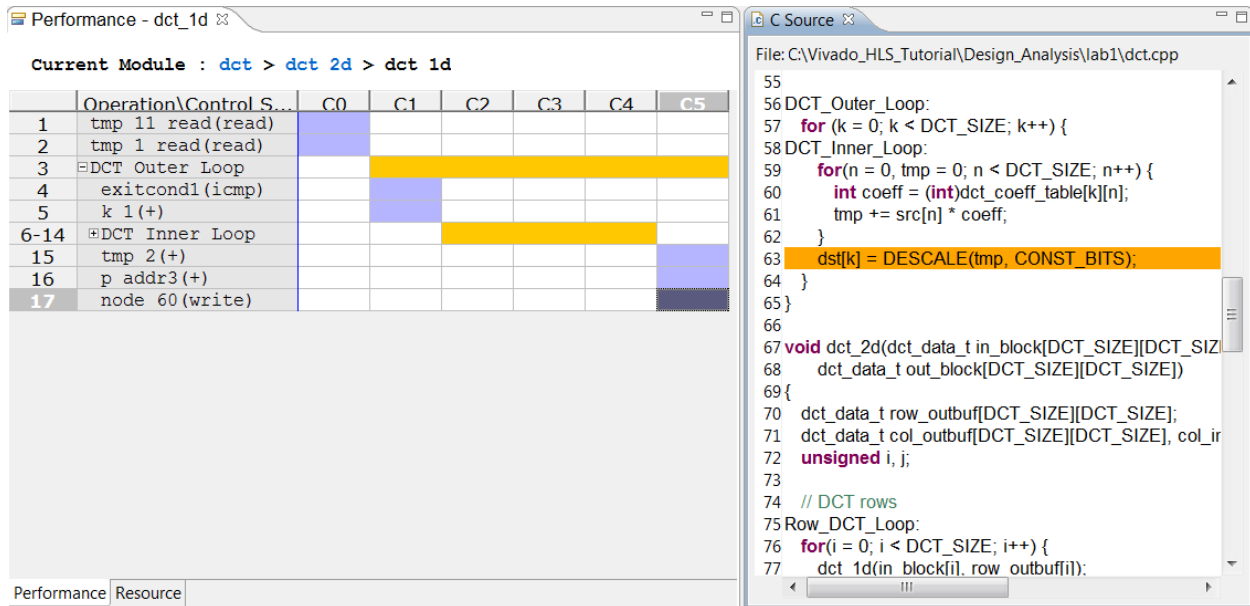

Figure 124: DCT Solution2 dct_1d Performance View
11. In the **Performance** view, click loops `DCT_Outer_Loop` and `DCT_Inner_Loop` to view the loop hierarchy (Figure 124).
Figure 124 shows that this loop was not flattened because additional operations outside of DCT_Inner_Loop, at the level of DCT_Outer_Loop, prevented loop flattening. One of the operations that prevented loop flattening is highlighted in **Figure 124**, below.